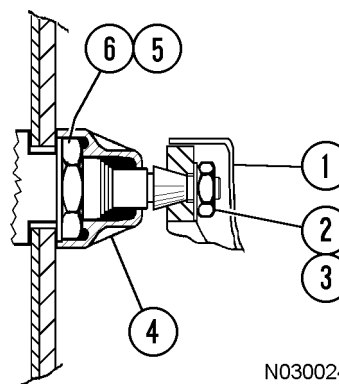

FIGURE 50-23. WIPER ARM DETAIL
1. Note the parked position of wiper arm (1, Figure 50-23).
2. Lift the wiper arm cover. Remove nut (2) and washer (3).
1. Place wiper arm (1, Figure 50-23) into the parked position noted during removal. Install washer (3) and nut (2). Tighten the nut to **16-20 N·m (142-177 in lb)**. Close the wiper arm cover.